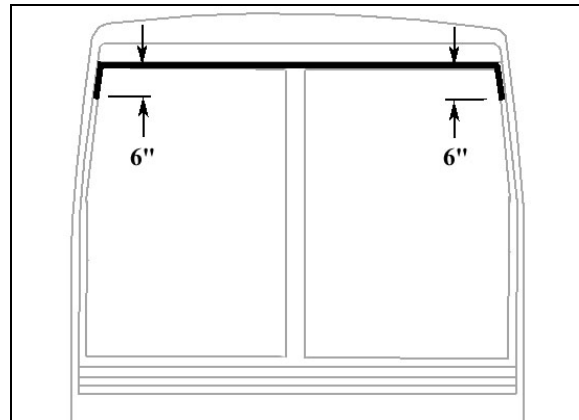

FIGURE 58: APPLICATION OF SIKA 221 BLACK
- Apply Sika 221 black (Figure 58) between fiberglass and rubber extrusion